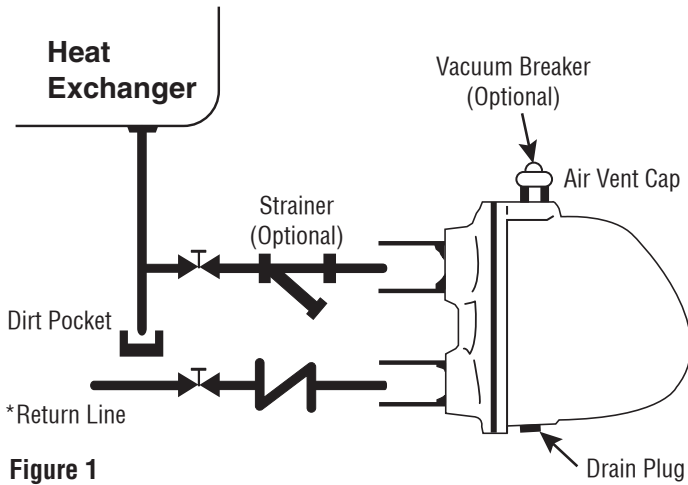

Figure 1
Install the trap so that its inlet connection is below the liquid level in the equipment to be drained. Figure 1 shows the recommended piping method.
3. Set the unit as shown in Figure 1, 2, or 3, with the flange resting on the floor or on a platform for support. Then install and tighten the inlet and discharge piping to secure the unit in its operating position. Use good piping practices to avoid excessive strain on the piping.
Note: Use good piping practices. Make inlet piping as short as possible with a minimum of elbows and other restrictions. Install a dirt pocket in the line ahead of the unit as shown in Figures 1 and 3.